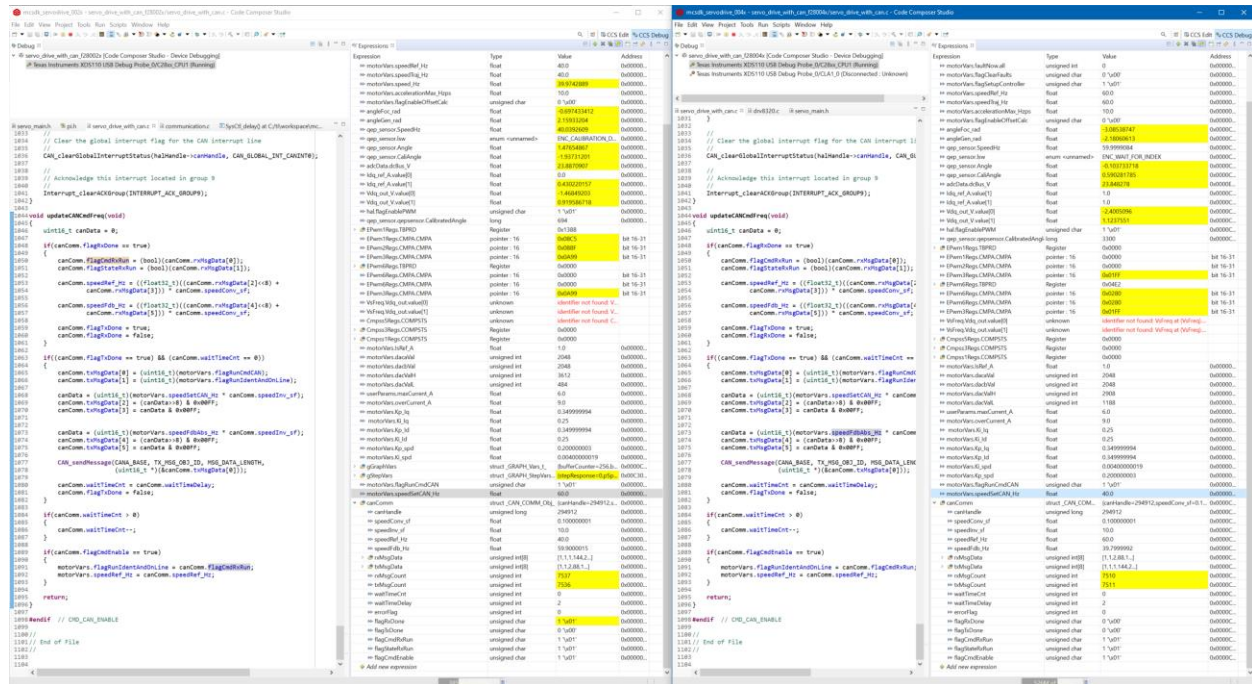

Figure 16: Open the lab project in two CCS workspace as host and slave
2. Open the project in another CCS workspace for the host controller as shown in Figure 16.